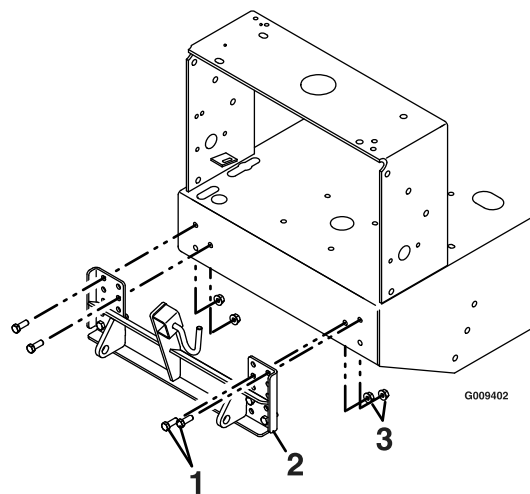

Figure 9
- b. Install the adapter plates to the mower engine deck using two 3/8-16 x 1/4 inch hex capscrews and two 3/8-16 inch flanged nyloc nuts as shown in Figure 9.